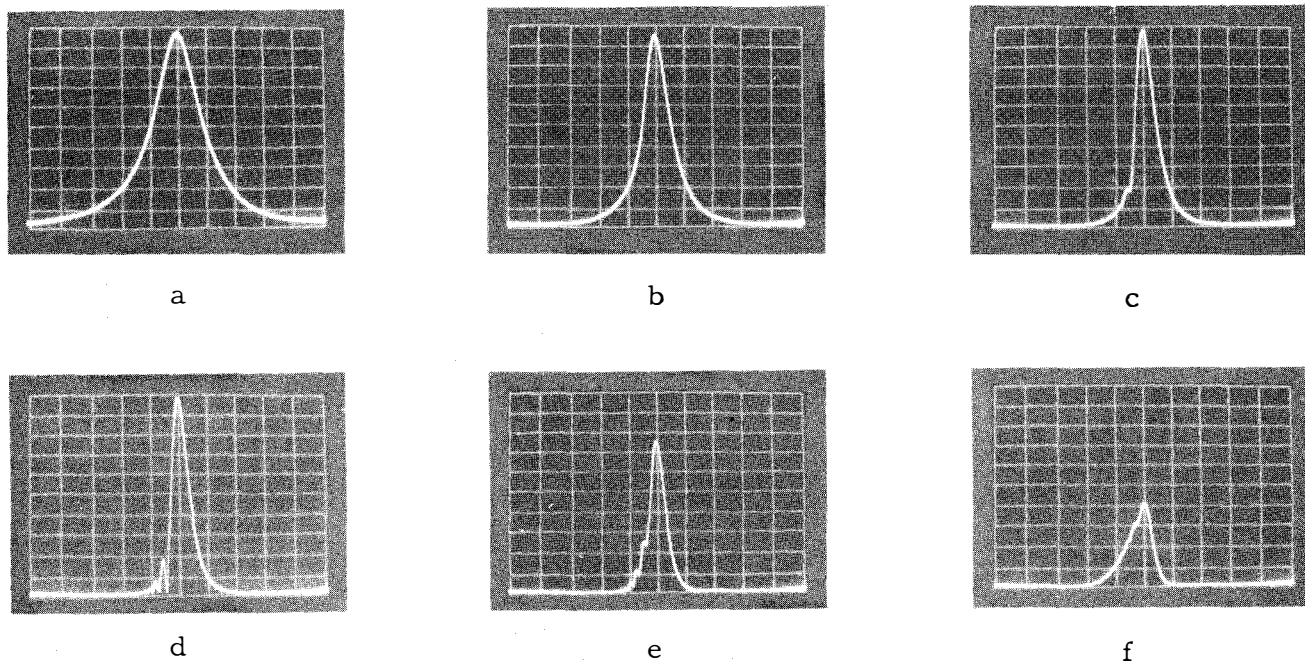

Figure III-7. Screen Presentations for Different Settings of IF BANDWIDTH Control.
- (1) Set the IF BANDWIDTH control completely clockwise, the position for the broadest if bandwidth.
- (2) Adjust the CENTER FREQUENCY dial so that the desired band of signals is at the center of the screen.
- (3) Spread the band of signals across the screen by turning the SWEEP WIDTH dial counterclockwise. Note that at reduced sweep width each frequency calibration mark of the screen represents a frequency separation equal to one-tenth of the reduced sweep width.
- (4) Turn the IF BANDWIDTH control counterclockwise until individual signals are most clearly resolved. If the signals are not resolved, a slower sweep rate will have to be used. Optimum resolution can be recognized by the nature of the ringing pulses that will appear on the trailing
edge of the signal pip as optimum resolution is approached. See Figure III-7 and subparagraph (5) below. Ringing can be seen more easily with the VIDEO FILTER control in the OFF position.
Waveforms "a" to "f" of Figure III-7 indicate progressive variations in pip width effected by counterclockwise rotation of the IF BANDWIDTH control. In "a" and "b" the intermediate-frequency bandwidth is broad for particular scanning velocity (product of sweep rate and sweep width). Waveform "c" shows the beginning of ringing. On the LIN or PWR amplitude scale, with a full-scale or smaller pip, the notch between the signal pip and the ringing